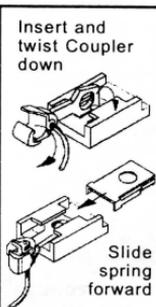

FIG.6
(short tongue, front attachment), install Coupler from the front at an angle and slide Coupler Shank underneath one lip of coupler box, see Fig.6. When the coupler hole is centered over pivot pin,
6. Insert Bronze Centering Spring from the rear, bringing it forward over Coupler. Align holes in both the Coupler and spring over the pivot pin, see Fig.6.